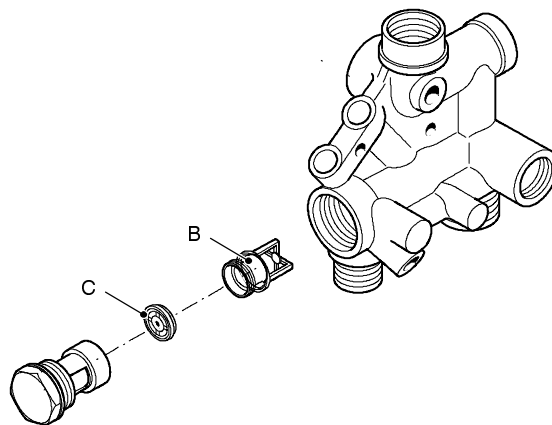

fig. 65
- 2 Unscrew the part B (fig. 65) and remove it from the body of the filter.